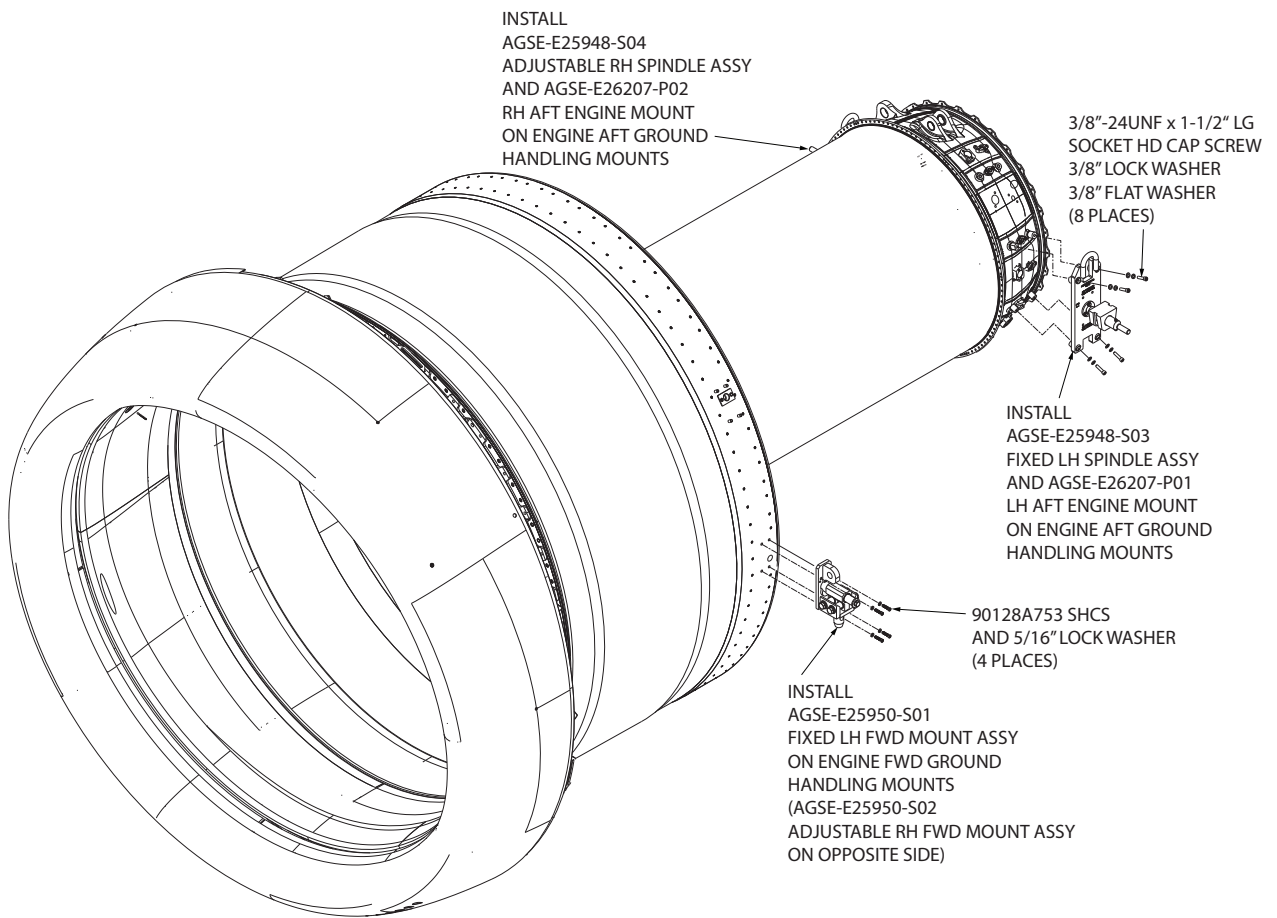

Figure 5.1-2
- 6) Install the AGSE-E25950-S01 fixed LH FWD mount assembly and AGSE-E25950-S02 adjustable RH FWD mount assembly on the FWD engine ground handling mounts using eight (8) 90128A753 hex head cap screws and eight (8) 5/16" lock washers. Apply Anti-seize thread lubricant to bolt threads before installing into the engine. (Illustration Figure 5.1-2).
- 7) Install the AGSE-E25948-S03 fixed LH spindle assembly and AGSE-E25948-S04 adjustable RH spindle assemblies on the AGSE-E26207-P01 (LH) and AGSE-E26207-P02 (RH) AFT engine mounts using 3 each (per side) hex bolts, flat washers and lock washers. Apply Anti-seize to bolt threads before installing into the engine mounts.
- 8) Install the AGSE-E26207-P01 and AGSE-E26207-P02 AFT engine mounts on the engine AFT ground handling mounts using the hardware provided. Apply Anti-seize to bolt threads before installing into the engine. (Illustration Figure 5.1-2).